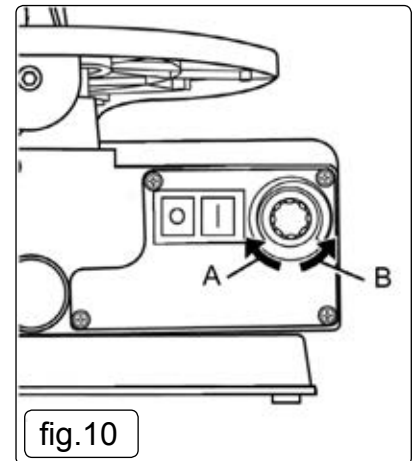

fig.10
6.5. **Speed Setting. fig.10**